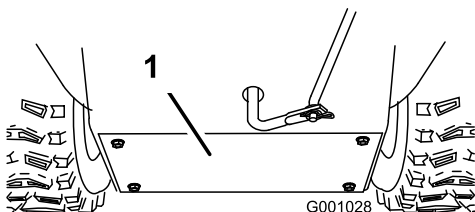

Figure 51
3. Remove the back cover (Figure 51).